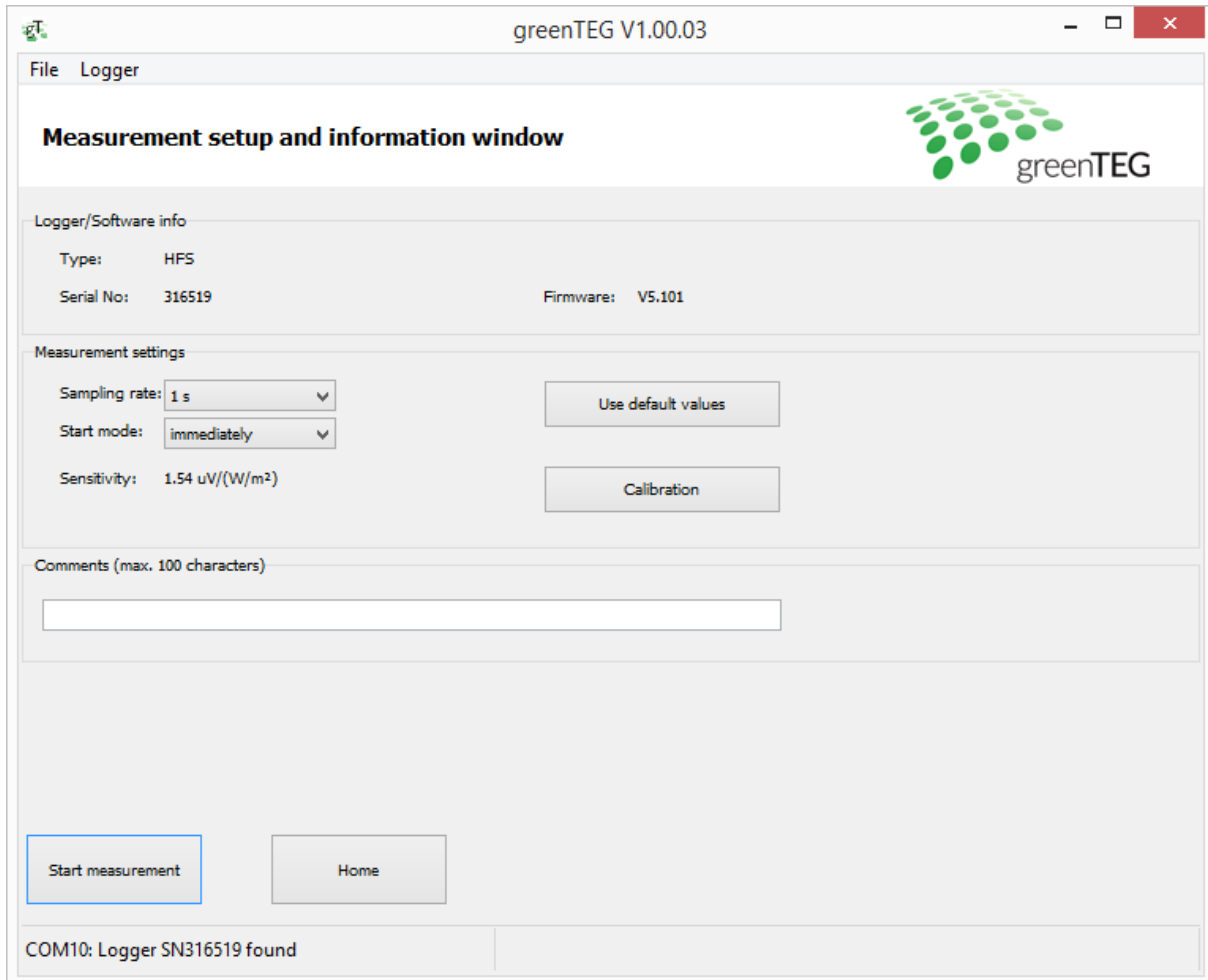

Figure 3: Measurement setup and information window
2. **Start logging:** From here, you can start your measuring process. Before starting, please select the frequency at which you would like to log your data points (e.g. Sampling rate: every 1 second) and when you want to start the measurement process (e.g. Start mode: immediately) (see figure 3)